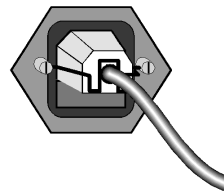

Figure 4-10. Power Cord Retaining Clip
2. Plug the AC power cord into the AC power cord receptacle and snap the retaining clip down over the plug to secure it in place (see Figure 4-10).